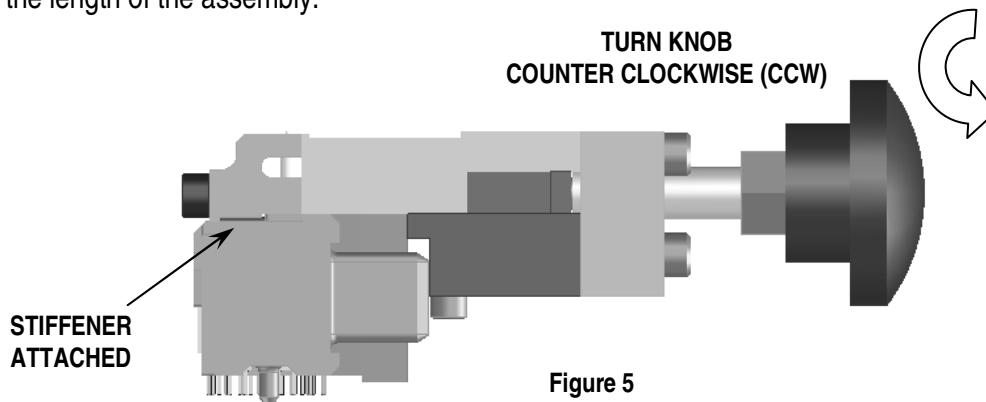

Figure 5
4. Turn the knob on the tool counter clockwise (CCW) so the stiffener locator moves toward the press block. See Figure 5. For excessively long assemblies it may be necessary to gradually install the stiffener by moving the tool along the length of the assembly.